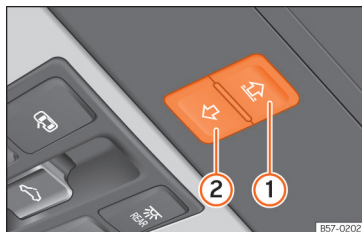

Fig. 83 On the interior roof lining: function button to operate the sun blind.
- If it still cannot be closed, within 5 seconds press the button » » Fig. 83 ② until the blind closes fully. **The blind closes without the intervention of the anti-trap function!**